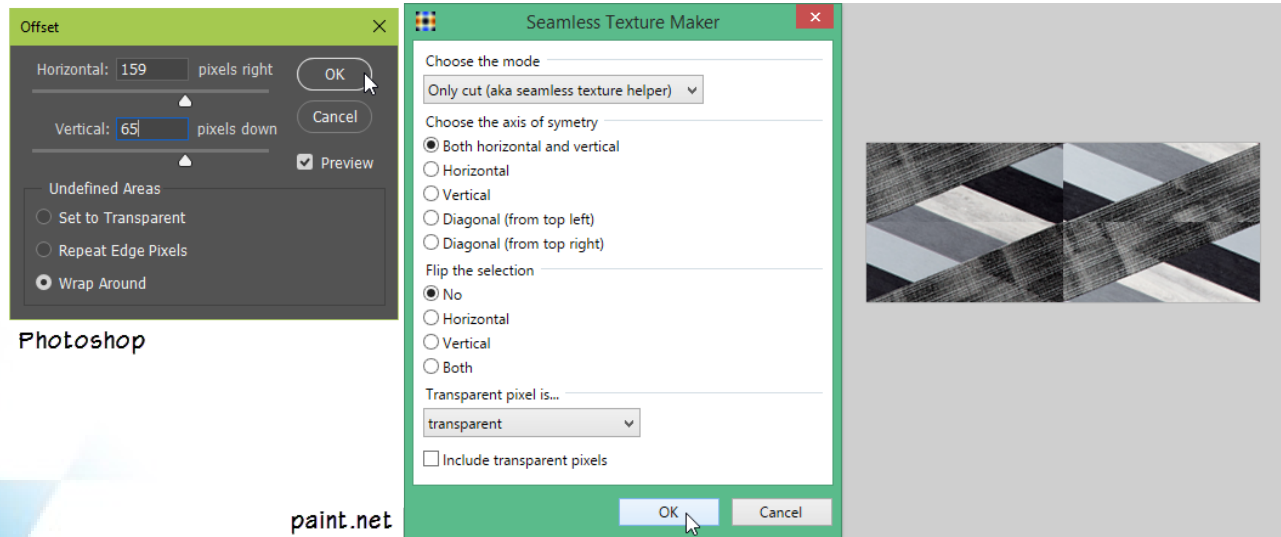

Figure 25—Use the Seamless Texture Maker to find the seams
**In paint.net:** in the "Seamless Texture Maker" dialog, choose the: **Only cut** option from the menu. For axis of symmetry, choose: **Both horizontal and vertical** and make sure Flip the selection is set to No (see Figure 25).